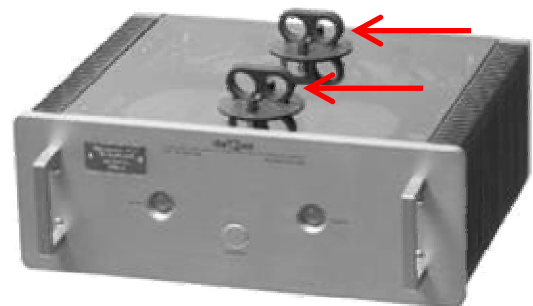

Fig.1 Suction grips
Disconnect all links you may have installed by removing all cables from **inputs (4), (5) or (6)**, and from **Speakers Terminals (7)**. Unscrew the single central cover screw, and remove the smoked glass using the supplied suction grips, as shown in fig.1 Gently wet them in order to get firm vacuum. Please be very careful when removing the cover, since it is real glass, not Plexiglas™.
Remove the single central screw located on the top smoked glass cover. Take the two supplied suction grips, slightly wet them in order to provide strong vacuum, and firmly apply them on the cover glass, as indicated in Fig.1